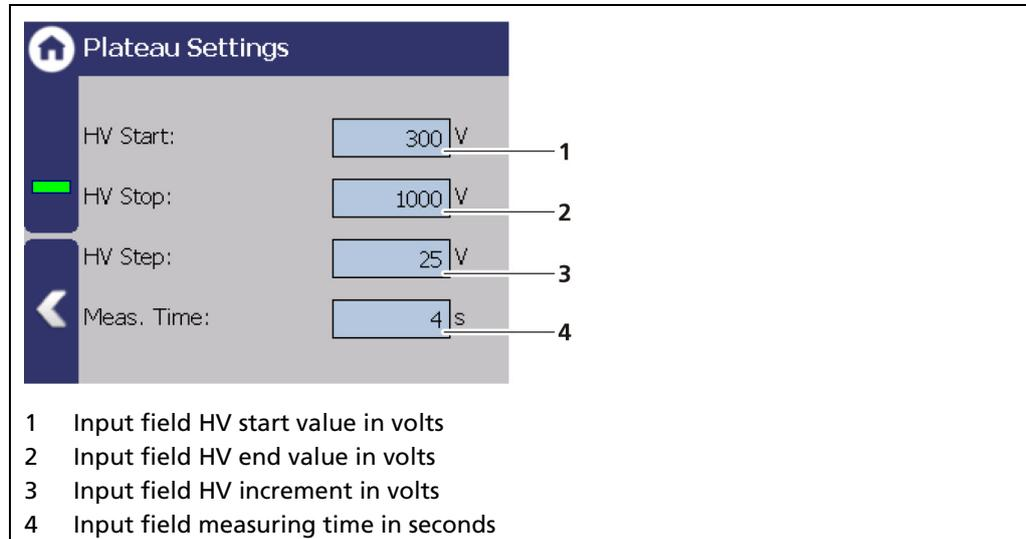

Fig. 60 Plateau Settings
1. Click on the corresponding input field (Fig. 60, item 1-4).